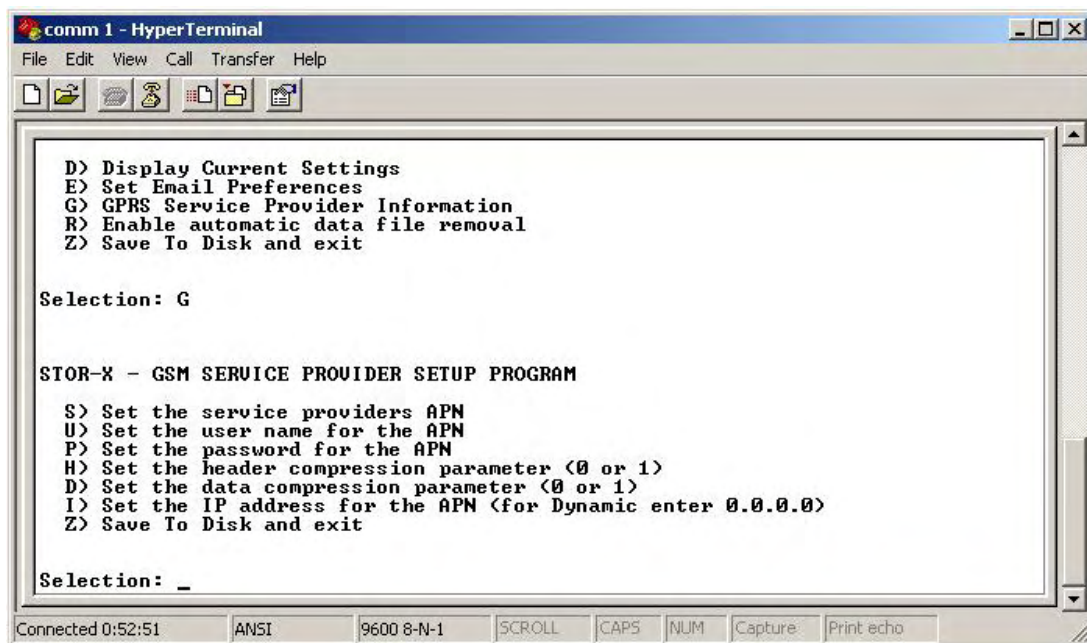

Figure 17 - GPRS Service Provider Setup Menu
G) Set GPRS Service Providers Information – displays the GSM Modem Configuration menu depicted in Figure 17 and described in section 4.3.6.
This section describes the GPRS Service Provider Setup menu. Accessed from the GSM Modem Configuration menu, the GPRS Service Provider Setup menu is shown in Figure 17. The GPRS service provider provides this information. Available options on in this menu are: